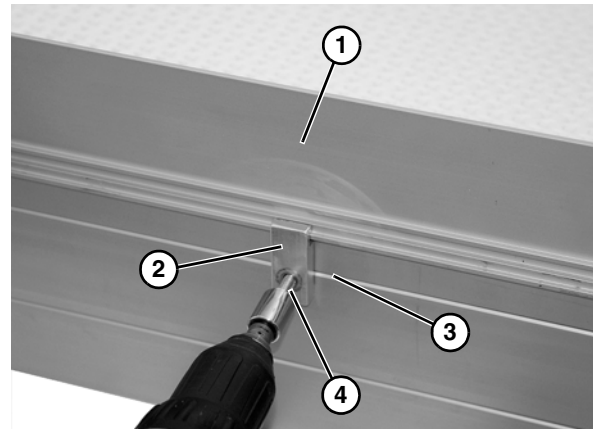

Figure 17
1. Locate guide (**Figure 17, item 1**) and retaining clip (**Figure 17, item 2**) and hold to side rail. Hole should line up with notch (**Figure 17, item 3**) in side rail.
2. With a cordless drill or equivalent install self-drilling screw (**Figure 17, item 4**). Use high speed setting to drill through side wall. Once the tap portion is started switch drill power to a lower speed. Do not fully tighten with drill.